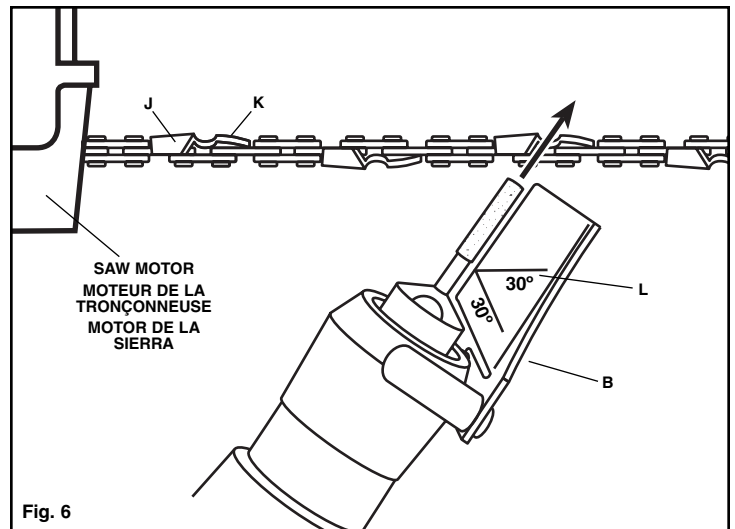

Fig. 6
**Note: Sharpen cutter teeth (J) only, not the depth gauge (K).**
4. Turn the saw around so that you are looking at the side of the chain bar with the motor to your left. Sharpen the cutter teeth on the far side of the chain, from inside to outside, or away from you, as shown in Figure 6. The guide should be laid flat on the tooth with the 30° index line parallel with the chain.